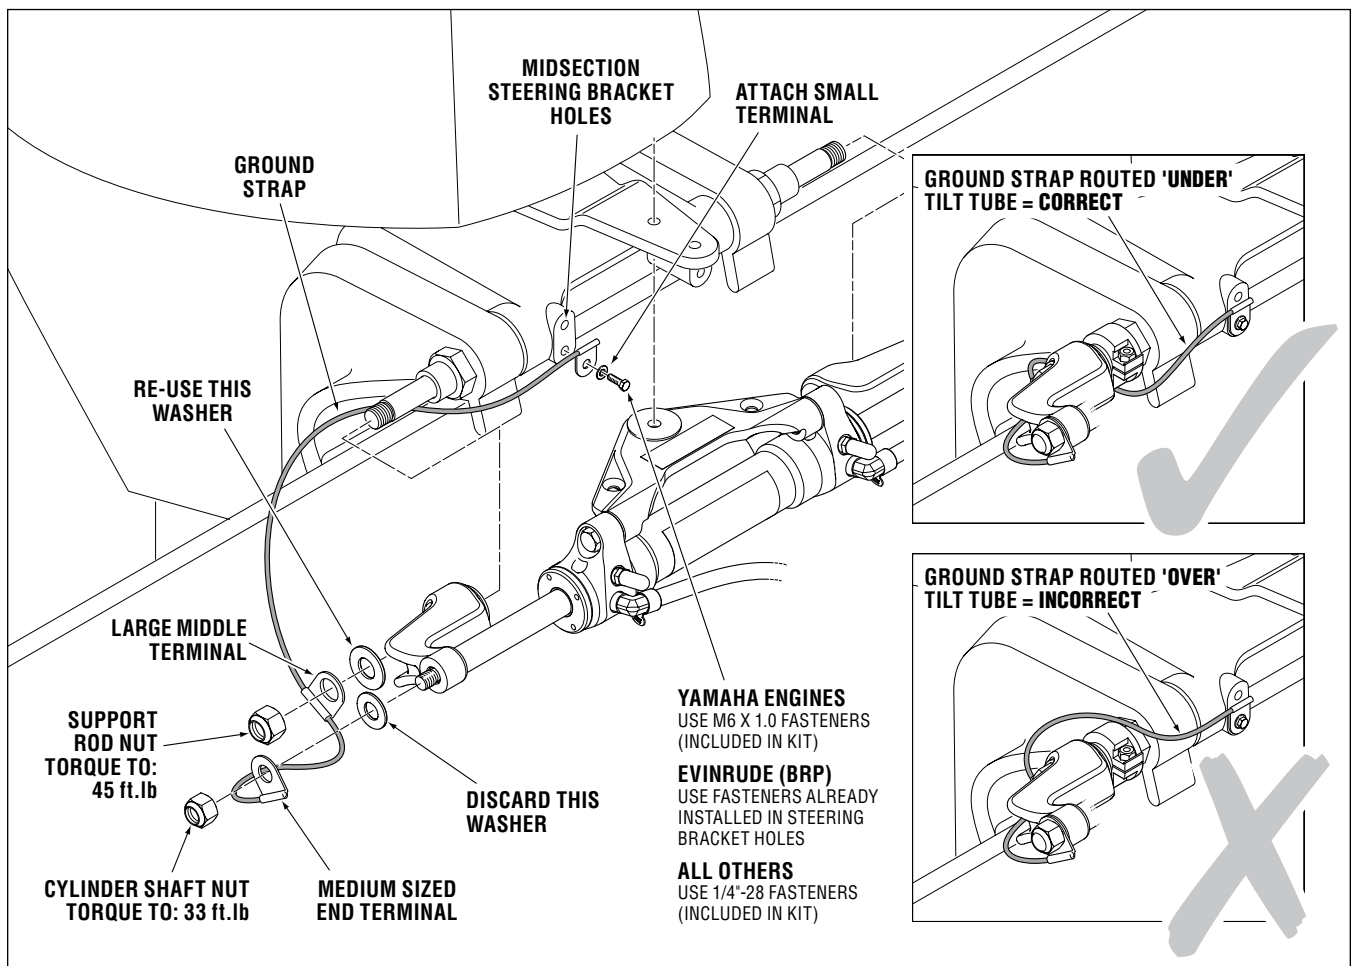

Figure 10. Ground Strap Installation.
- Install ground strap to cylinder as per Figure 10.